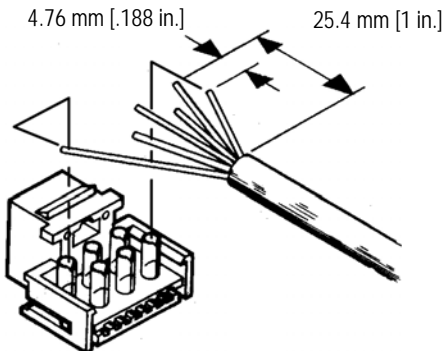

Figure 8
1. Strip cable jacket and trim wires to dimensions shown in Figure 8.